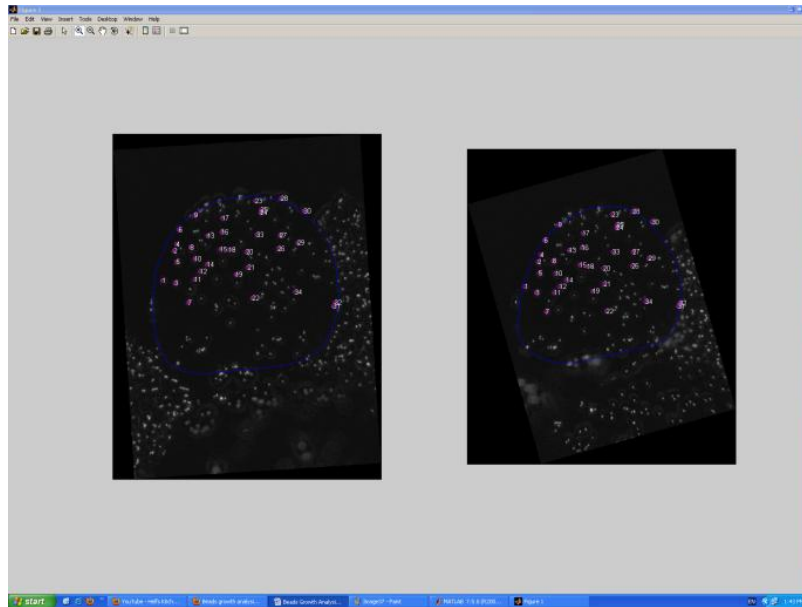

Figure 15. Automatic bead matching
3. The program matches beads automatically for two DASs of a PLT (Figure 15).